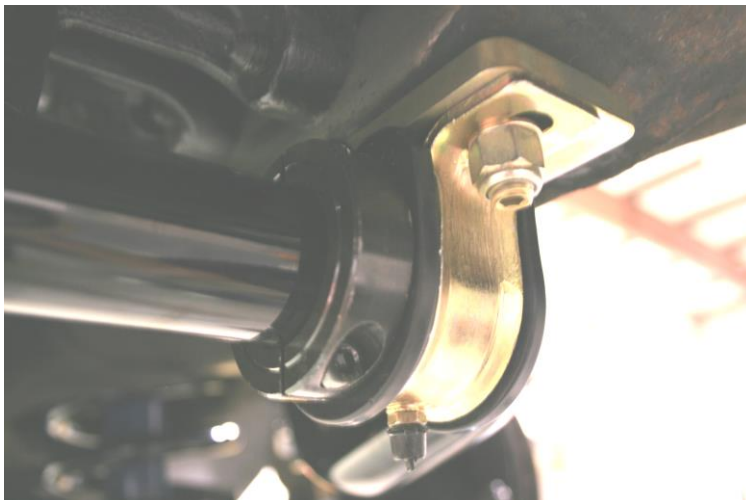

Figure 3 – Split Collar Clamp Installed
8. Separate the Split Lock Collar into two pieces and place around the anti-roll bar to the inside of the anti-roll bar clamps. Reassemble the collar using High Strength Loctite on the bolts and torque to 15 ft-lbs. **NOTE:** Position the collars tight to the urethane bushing when installing. Figure 3 below shows the collar installed.